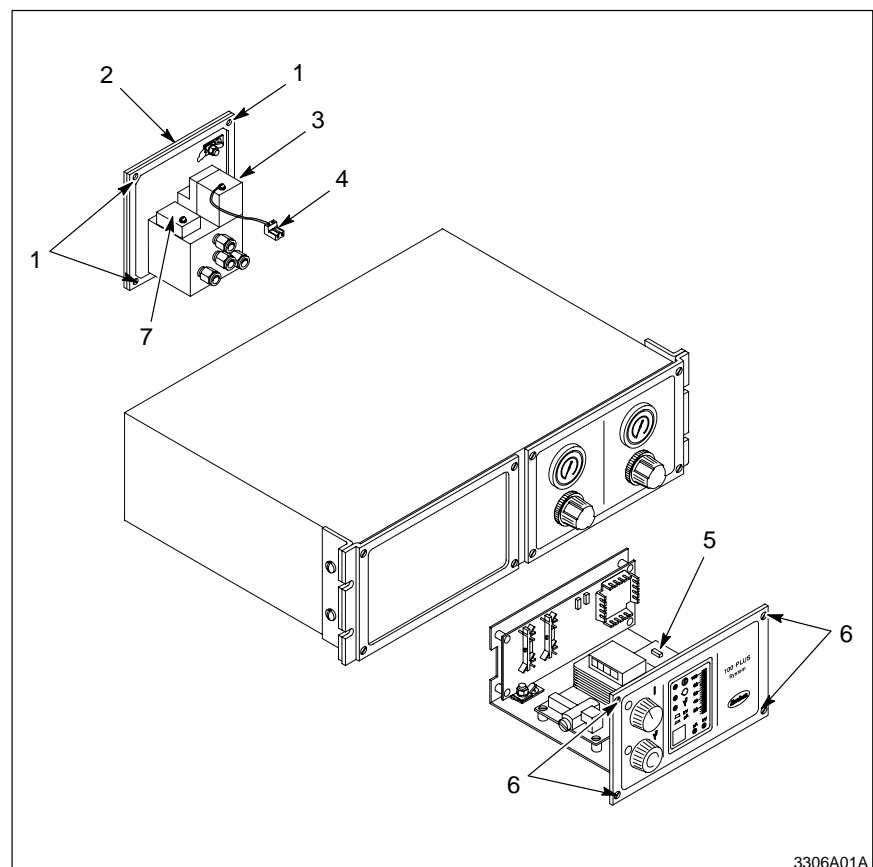

Fig. 1 Removing 24 Vdc Solenoid
1. See Figure 1. Loosen the screws (6) securing the 100 PLUS power unit electronic module to the cabinet and slide the electronic module out of the cabinet.
2. Remove the two-pin solenoid power connector J6 (5) from the power supply circuit board.
1. See Figure 1. Cut the leads on the 12 Vdc solenoid valve to 102 mm (4 in.) long. Strip the end of each wire 5 mm (0.19 in.). Install both wires into the two-pin connector removed from the 24 Vdc solenoid.
1. See Figure 1. Slide the pneumatic module back into the cabinet, making sure to position the new circuit board cable and connector in the cabinet so that it can be connected to the power supply circuit board. Tighten the four screws securing the module to the cabinet.